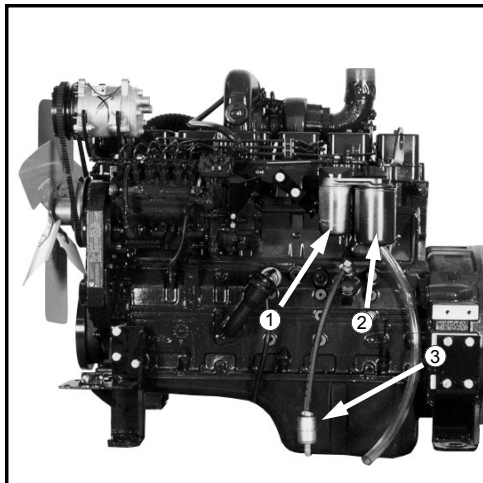

FIG 7.22
PRIMARY (WATER SEPARATOR) - (fig. 7.22, item 2) Drain water and sediment from the separator daily. Replace every 500 hours or once a year, whichever comes first.
SECONDARY - (fig. 7.22, item 1) Replace every 500 hours or once a year, whichever comes first.
IN-LINE STRAINER - (fig. 7.22, item 3) Note direction of fuel flow arrow when replacing.